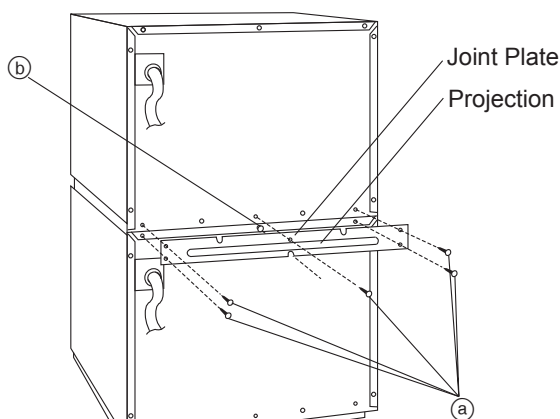

Fig. 1
1. Stack the units and remove five screws (a) as shown in Fig. 1.